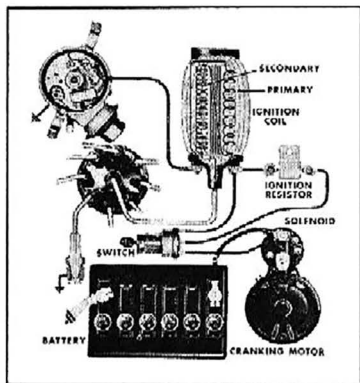

Fig. 38—Ignition Circuit
**Description.** The ignition system consists of the ignition switch to open and close the circuit, the coil to induce high voltage, the resistor which prevents excessive primary current at low temperatures, the distributor to make and break the low tension circuit and distribute the high tension current, 14-millimeter spark plugs to provide the spark in the combustion chamber and the necessary wiring (fig. 38). The battery is the source of current for the ignition system when starting the engine or operating at idling speed. The generator furnishes the ignition current at higher speeds.